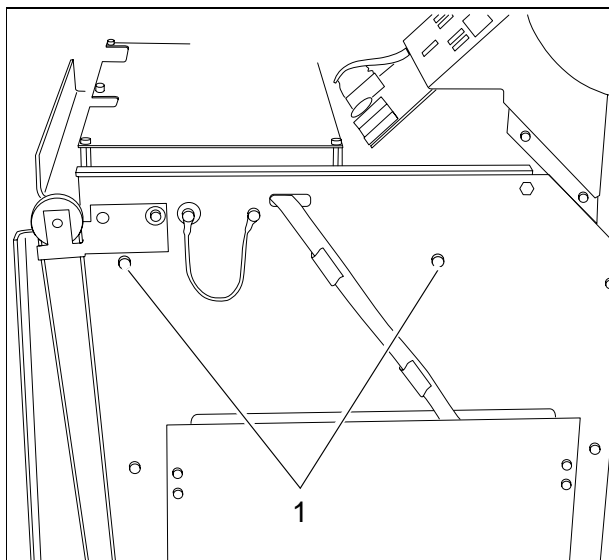

Fig. 2
- Remove the four (two on each side) screws that fix the cable winder assembly (pos. 1 / Fig. 2).